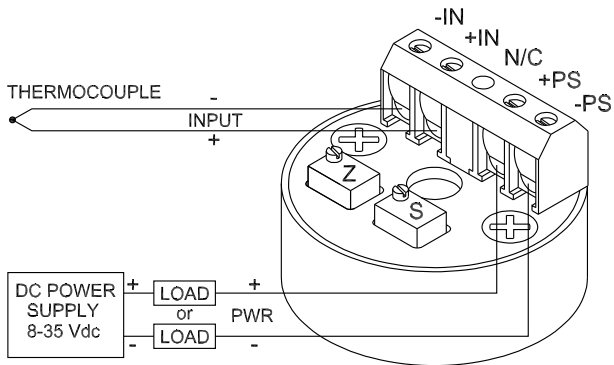

**Figure 2-1 Assembly of the Transmitter inside an NB2 Protection Head**
If the transmitter is mounted inside a protection head, (see **Figure 2-1**), the thermocouple extension wires are replaced by two copper wires that carry the 4-20mA signal and dc voltage to operate the transmitter.
2. mounted inside a protection head (shown in **Figure 2-1**)